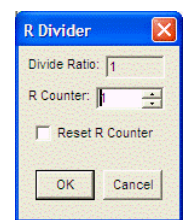

Figure 13. **Reference Divider** Window
7. Program the R (reference) divider by clicking the **R DIVIDER** box at the top of the main window. Set the desired value and click **OK** (see Figure 13).
The R divider window shown in Figure 13 is accessed by clicking the **R DIVIDER** box in the main window. It allows the user to set the reference divider. If this box is colored gray, the PLL is off. To turn the PLL on, click the **PLL MODE** box at the top of the main window, and select **Norm Op**.